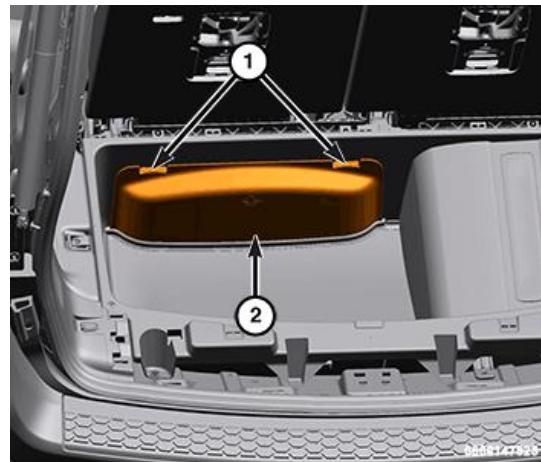

Figure 22 – Jack Cover
38. Press the two tabs (1) down and pull out to remove jack cover (2) (Figure 22).
98. Install the jack cover (2) (Figure 22).